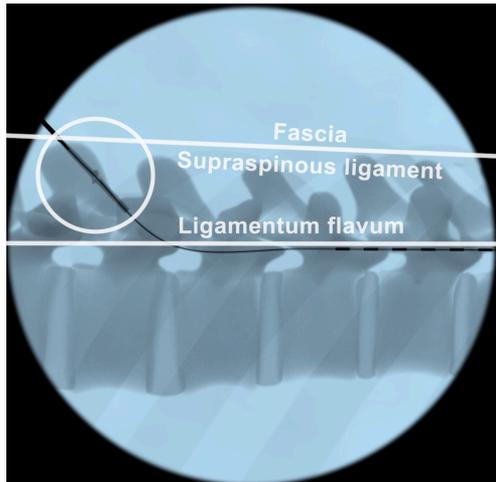

Figure 8
9. Remove the locking clip and pull the Injectroducer out slowly, verify final placement of SandShark Anchor with another lateral X-ray (see Figure 8).